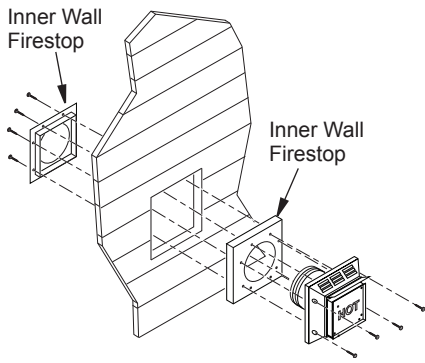

Figure 15 - Installing Outer Wall Firestop (Combustible Exterior Wall)
7. **Combustible Exterior Wall Only:** Fit the outer and inner wall firestop into the wall before connecting horizontal run to vent cap (see Figure 15).